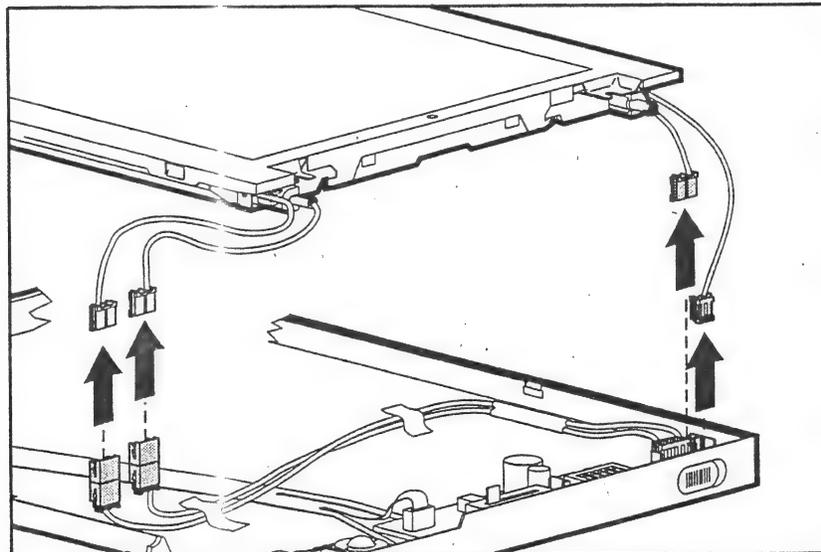

Figure 2-19. Disconnecting the Four LIF Connectors
6. Disconnect the four LIF connectors that secure the backlights (Figure 2-19).